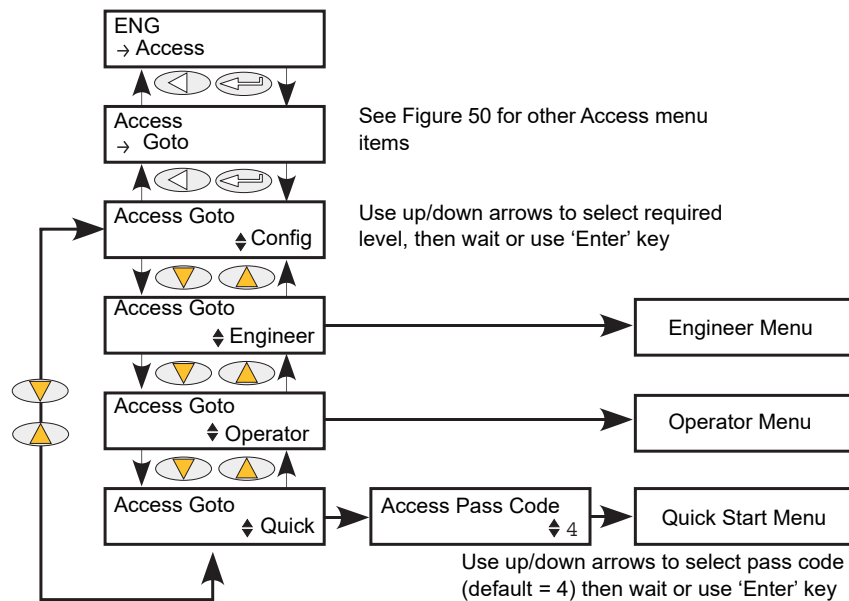

Figure 49 GoTo Menu
1. The user to quit the Configuration level menu and 'Goto' a different access level. Operator and Engineer level menus require no Pass code as they are considered to be at a lower security level than Configuration. (Figure 49 shows the menu layout).